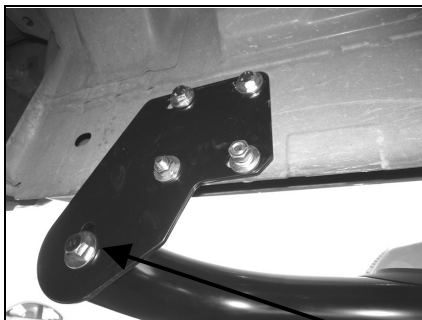

Figure 4
- Place Side Bar into position and loosely attach it to Mounting Brackets using the included (2) 12-1.75mm x 50mm Hex Head Bolts, (2) 12mm Flat Washers, and (2) 12mm Lock Washers (*Figure 4 & 5*). **NOTE:** Side Bar mounting hole on the brackets must be vertical.